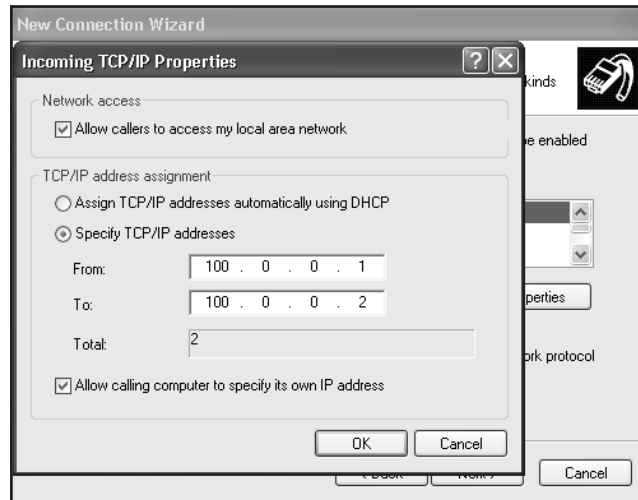

Figure 193 Adding the Network Protocol
10. Configure a range of IP addresses allowed to access the system. A minimum range must be assigned as shown in Figure 193. Click **OK**.